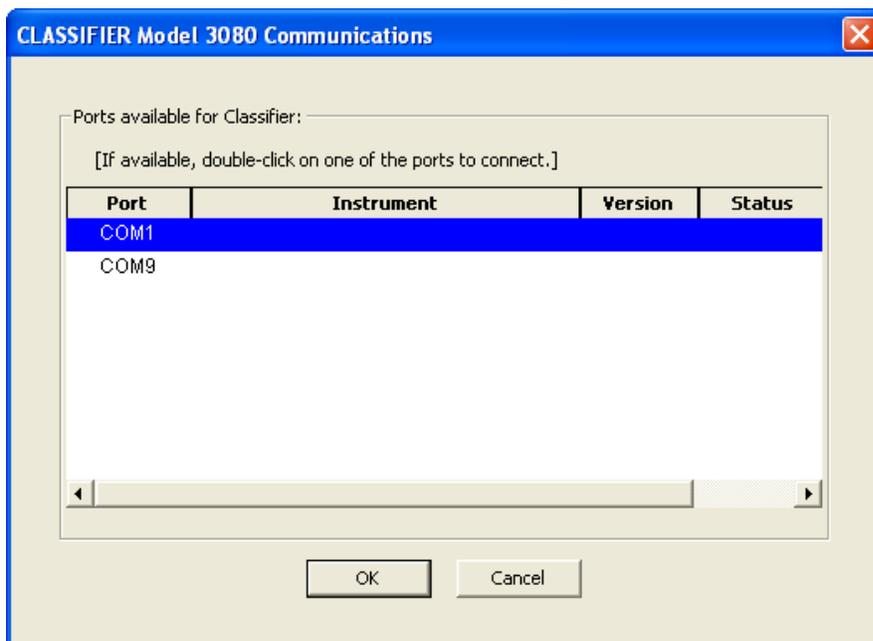

Figure 4-2
5. If the Model 3080 Classifier is currently selected and auto-connect is selected, the software will attempt to connect to the classifier at this time, first using the current default COM port selection for this instrument and next trying the other available Com ports. If the attempt to connect fails, the CLASSIFIER Model 3080 Communications dialog will appear allowing you to select the COM port (Figure 4-2). This is separate from the dialog that allows you to select the COM port for the CPC. That dialog is found on the Communications page of the Properties dialog
6. You can select the correct port by double-clicking on the port name (e.g., COM1), or click the **Cancel** button if not using the Model 3080 Classifier, or if planning to run the software without connecting to the classifier (Figure 4-2). In the latter case, you will need to set the flow and other values on the classifier manually and the software will use reference gas values from the Properties dialog rather than values read from the classifier.